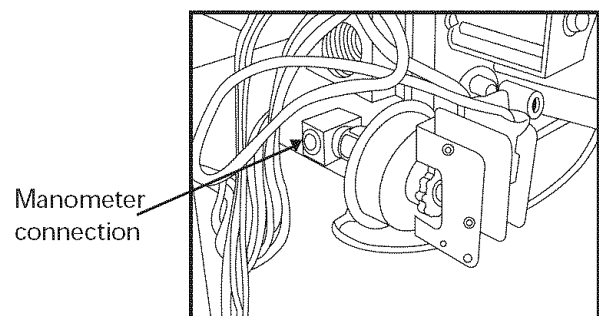

Fig. 11 - LGPS Installed
5. Apply pipe dope sparingly to male end of brass tee. Install propane low gas pressure switch (provided in kit) on nipple. After switch has been finger tightened, use small wrench on base of pressure switch for final tightening. When pressure switch is tight, switch terminals should point as shown in Fig. 11 relative to gas valve and clear control compartment access door.
7. Connect a manometer to the open end of the tee installed in the gas valve. (See Fig. 11.)
13. Apply pipe dope sparingly to end of inlet gas pipe plug and install into unused end of 1/8 in. tee. Use a small back-up wrench on tee when tightening gas inlet pipe plug. (See Fig. 11)